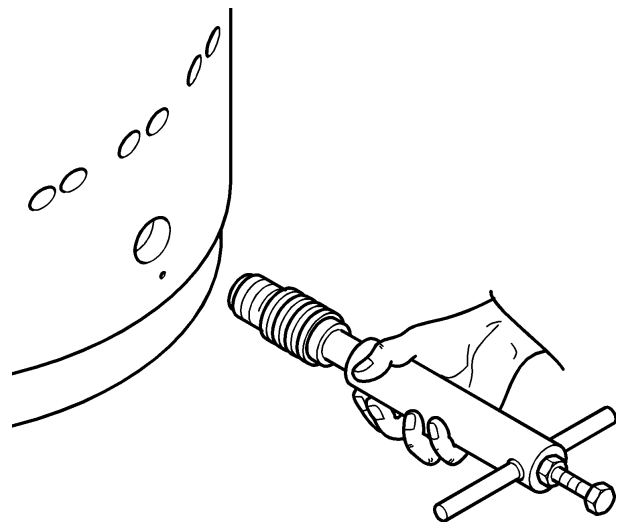

Figure 6.31
- Insert spanner body (09.050.0) so that the two fore pins fit the corresponding holes of valve body (fig.6.31).